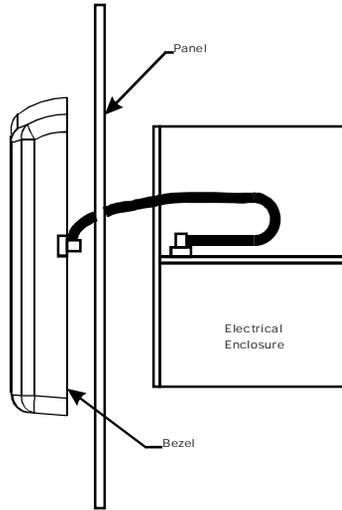

FIG. 5 THREADING DISPLAY CABLE INTO ELECTRICAL ENCLOSURE
- Step 8. Move the electronic enclosure toward the panel until it stops. (See Fig. 5)
- Step 9. Thread the four (4) 6-32 thumb screws onto the threaded rods until tight. Do not use pliers on the thumb screws.